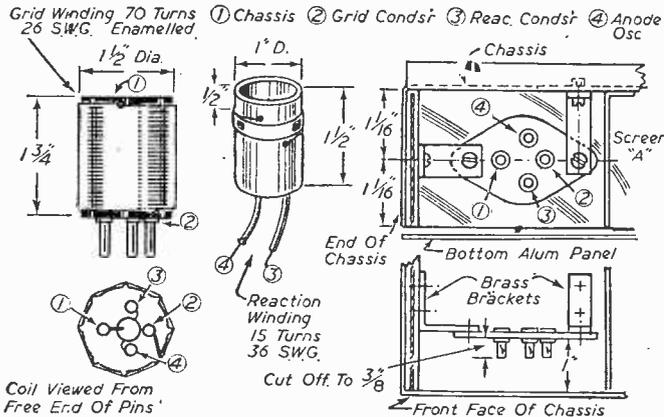

Fig. 8.—Coil winding details and coil mount.
The coil was wound on a standard 8-ribbed coil former as used for short-wave coils, although its original length of 2 3/4 in. was shortened to 1 3/4 in., as shown in Fig. 8. Although the author used 26 s.w.g. enamelled wire for the grid winding, close winding this, it is possible that a silk-covered wire of lighter gauge would be quite as efficient. Experiments are worth while to get the best coil possible. Seventy turns of the s.w.g. will be found to fill the 1 3/4 in. space available. The reaction coil should fit comfortably inside the grid coil, and with the com-
R.M.S. Voltage—Peak Voltage: With the slide inserted correctly set 1 on B against 2 on A, and now against the R.M.S. voltage on C read the peak voltage on D. By using the extensions in red at the end of the scales the peak voltage can be seen for every R.M.S. value except those starting with the figure 8.